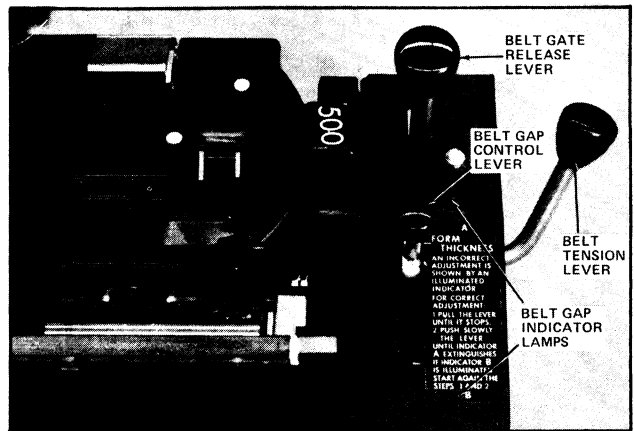

Figure 3-7. Belt Gate (Pre-Serial Number 2180)
12. Set paper thickness control according to paper thickness. When set correctly, both indicator lamps will be off (Figure 3-7, 3-8). If an indicator lamp is illuminated, move paper thickness control all the way to rear, and then slowly move it forward until indicator A is extinguished. If indicator B is illuminated, start step 12 over again.
5. Open belt gate by pulling the release lever (Figure 3-7, 3-8).